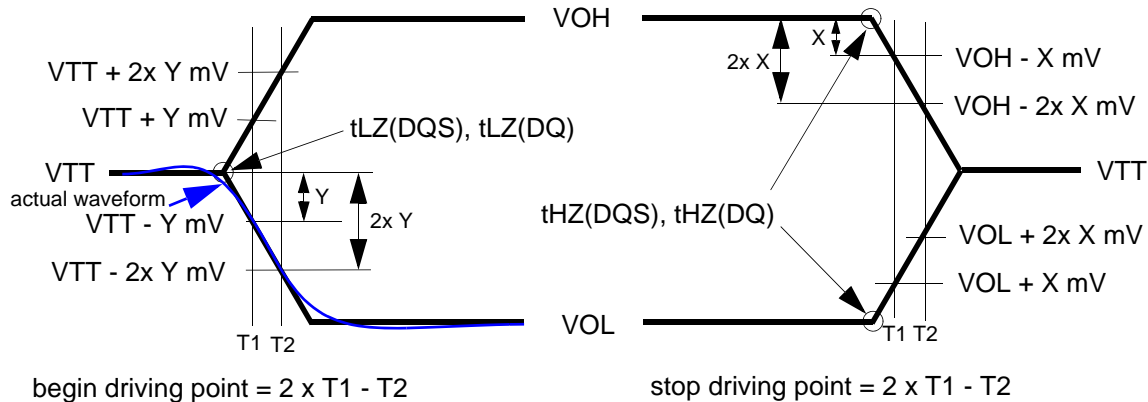

Figure 119 — HSUL_12 Driver Output Reference Load for Timing and Slew Rate
NOTE 15 For low-to-high and high-to-low transitions, the timing reference will be at the point when the signal crosses VTT. tHZ and tLZ transitions occur in the same access time (with respect to clock) as valid data transitions. These parameters are not referenced to a specific voltage level but to the time when the device output is no longer driving (for tRPST, tHZ(DQS) and tHZ(DQ)), or begins driving (for tRPST, tLZ(DQS), tLZ(DQ)). Figure 119 shows a method to calculate the point when device is no longer driving tHZ(DQS) and tHZ(DQ), or begins driving tLZ(DQS), tLZ(DQ) by measuring the signal at two different voltages. The actual voltage measurement points are not critical as long as the calculation is consistent.